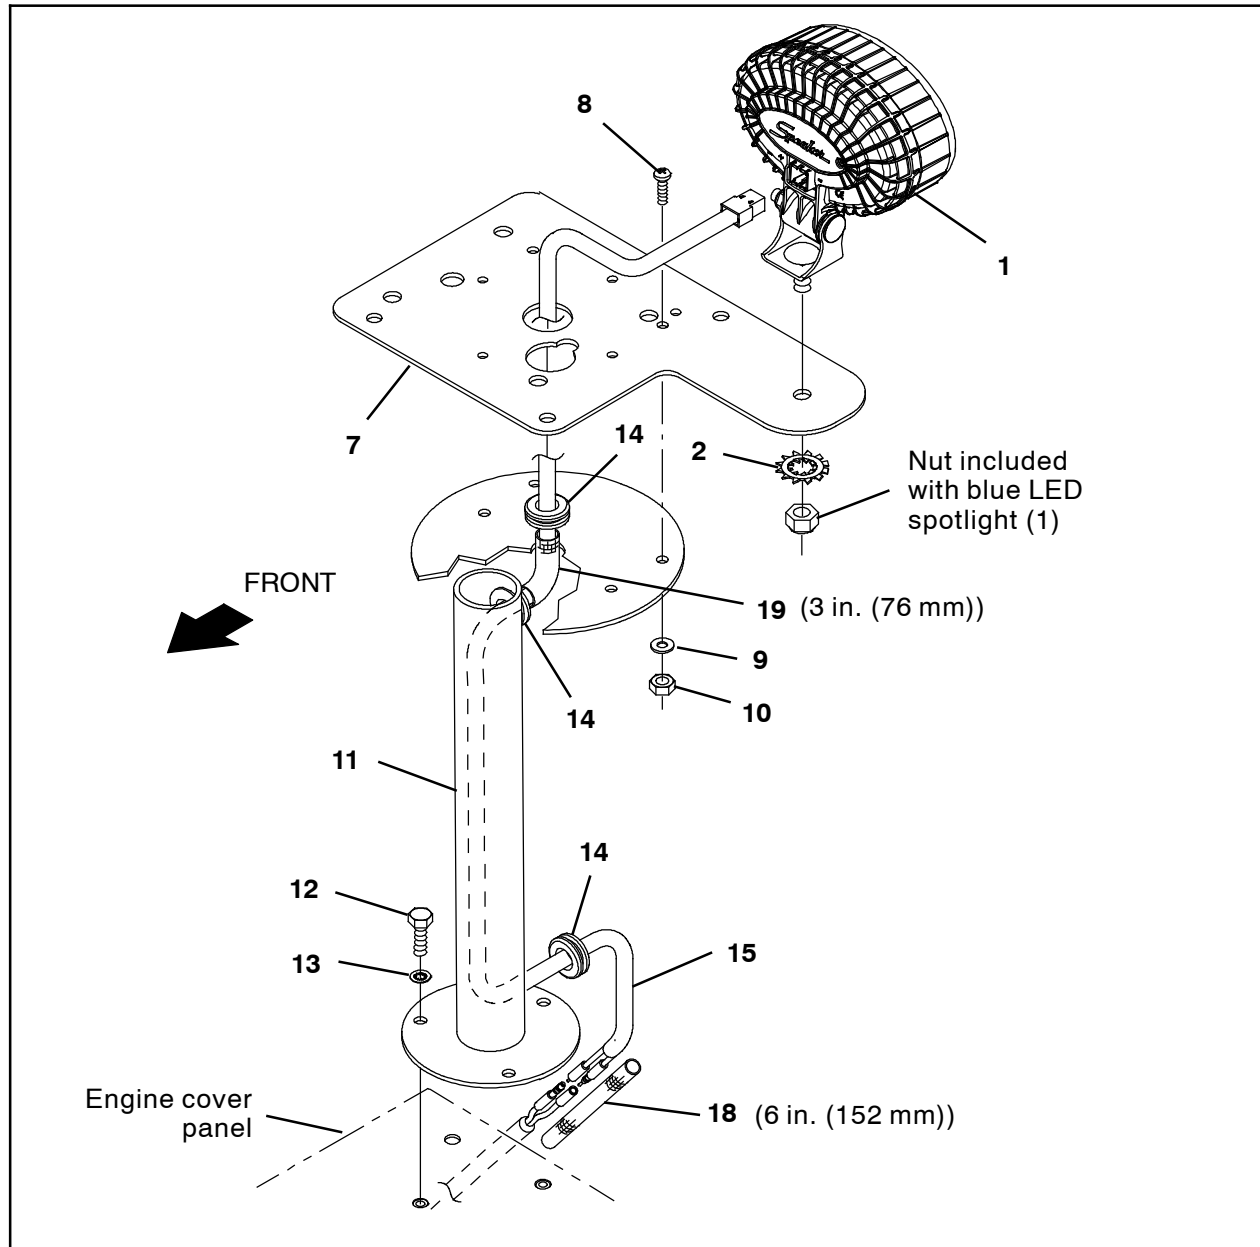
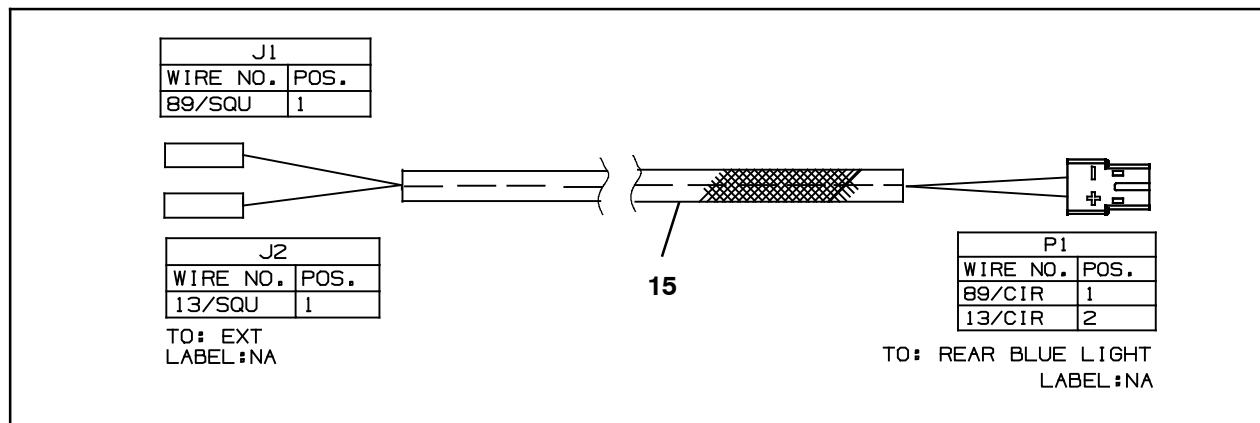

FIG. 10 - (Machines Without Low Flashing/Strobe Lights Only)
FIG. 11
2. Use four M5 pan screws (8), four flat washers (9), and four M5 hex screws (10) to install the rear spotlight bracket (7) onto the light pedestal (11). (Fig. 10)
3. Remove the hex nut included with the blue LED spotlight (1) from the light. (Fig. 10)
4. Use the hex nut removed from the blue LED spotlight (1) in the previous step and a lock washer (2) to install the blue LED spotlight onto the rear spotlight bracket (7). (Fig. 10)
5. Slide a grommet (14) onto the end of the blue spotlight harness (15) to be connected to the blue spotlight harness (17). (Fig. 10)
6. Route the end of the blue spotlight harness (15) to be connected to the blue spotlight harness (17) down through the rear spotlight bracket (7). (Fig. 10)
7. Slide another additional grommet (14) onto the end of the blue spotlight harness (15) to be connected to the blue spotlight harness (17). (Fig. 10)
8. Route the end of the blue spotlight harness (15) to be connected to the blue spotlight harness (17) through the top hole in the light pedestal (11) and down through the bottom hole (7). (Fig. 10/Fig. 11)
9. Slide another additional grommet (14) onto the end of the blue spotlight harness (15) to be connected to the blue spotlight harness (17). (Fig. 10)
10. Insert the grommets (14) into the holes in the light pedestal (11). (Fig. 10)
11. Connect the blue spotlight harness (15) to the blue LED spotlight (1). (Fig. 10/Fig. 11)
12. Use three M6 hex nuts (12) and three lock washers (13) to install the light pedestal (11)/blue spot light (1) onto the engine cover panel. (Fig. 10)
13. Install the (3 in. (76 mm)) vinyl sleeve (19) onto the area of the blue spotlight harness (15) between the two grommets (14) at the top light pedestal (11). (Fig. 10)
14. Use black electrical tape to secure the (3 in. (76 mm)) vinyl sleeve (19) onto the blue spotlight harness (15). (Fig. 10)
15. Route the end of the blue spotlight harness (15) through the hole in the engine cover corner panel. (Fig. 10)
16. Install the (6 in. (152 mm)) vinyl sleeve (18) onto the area of the blue spotlight harness (15) between the grommet (14) at the bottom of the light pedestal (11) and the grommet in the engine cover corner panel. (Fig. 10)
17. Use black electrical tape to secure the (6 in. (152 mm)) vinyl sleeve (18) onto the blue spotlight harness (15). (Fig. 10)
18. Connect the blue spotlight harness (17) BLUE LIGHT EXT leads to the blue spotlight harness (15). (Fig. 10/Fig. 11)
22. Adjust both blue LED spotlights (1) to customer preference.
1. Remove the hardware securing the flashing light/strobe light to the light pedestal. Set the hardware aside. (Fig. 11)
2. Disconnect the flashing light harness from the flashing light/strobe light. Set the flashing light/strobe light aside. (Fig. 11)
3. Carefully remove the light pedestal from the engine cover panel. Do Not damage the flashing light harness when removing the light pedestal. Discard the light pedestal and hardware. (Fig. 11)
4. Disconnect the flashing light harness from the main wire harness. Set the flashing light harness aside. (Fig. 11)